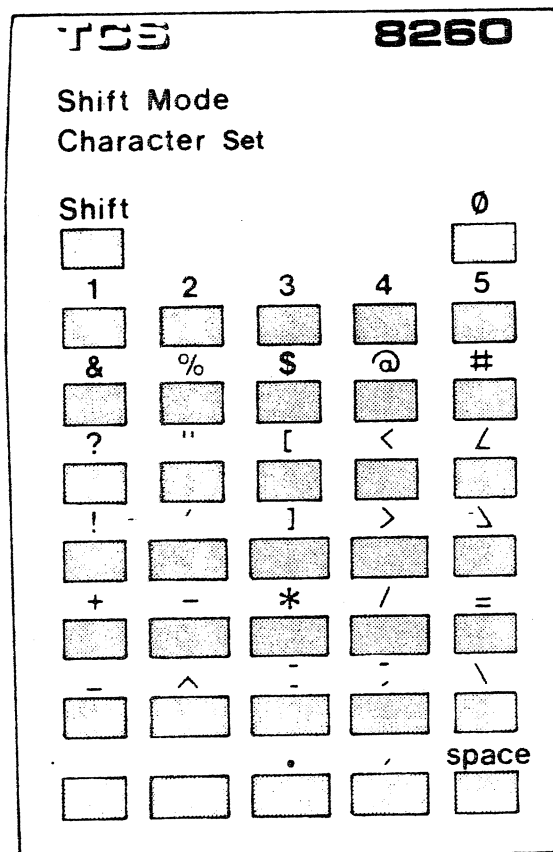

FIG. 4.2 SHIFT MODE CHARACTER SET
- 2) It is often required to programme non alphanumeric characters like spaces or asterisks within a tag field. The 8260 keyboard layout of Fig 4. shows that these are not normally available. However, if the SHIFT key is pressed an additional set of shift mode characters are available as illustrated by the keyboard overlay shown in Fig 4.2. Additional information on the shift mode is given in Section 2.4 of the System 6000 Communications Handbook.